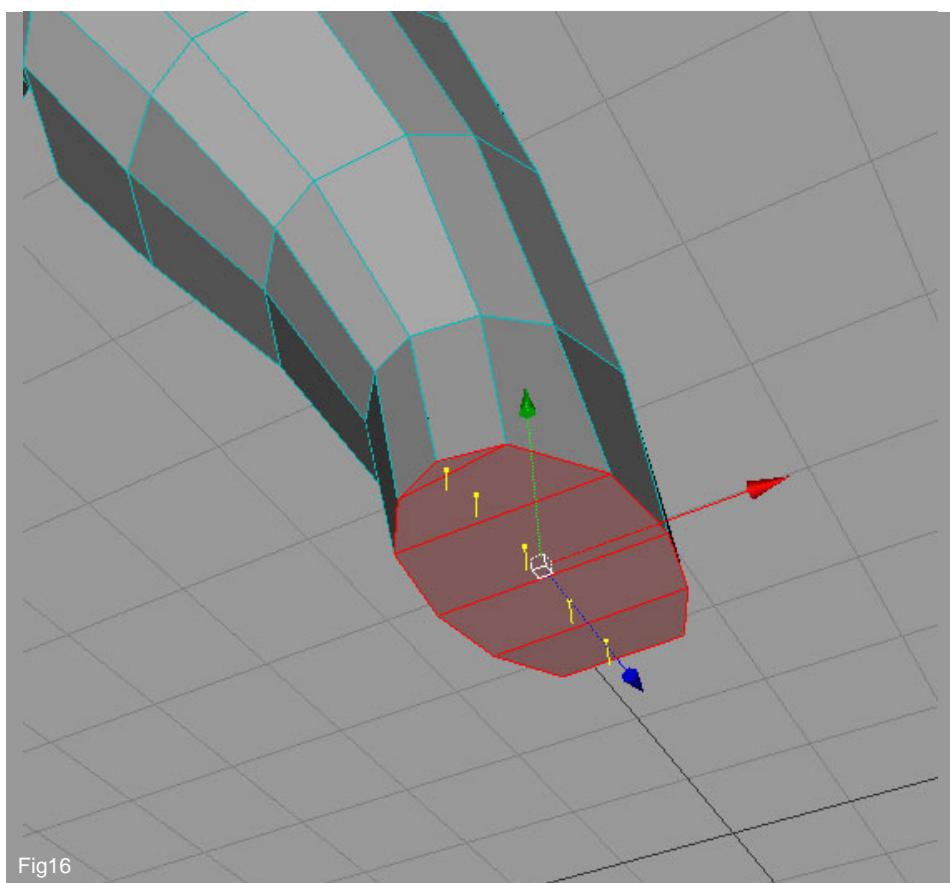

Fig16
13. As we did for the foot, we are going to cap the end of the arm with five polygons as shown in Fig16.